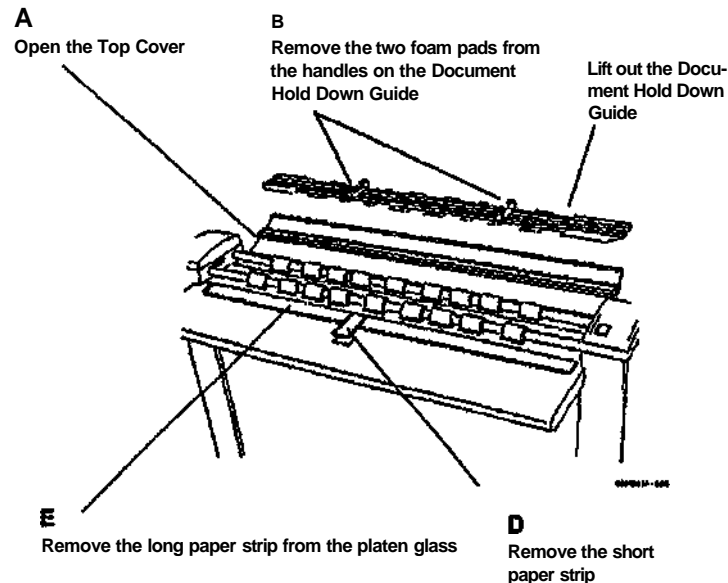

Figure 1 Removing the Packing Material
- a. (Figure 1): Prepare the Scanner for Installation.